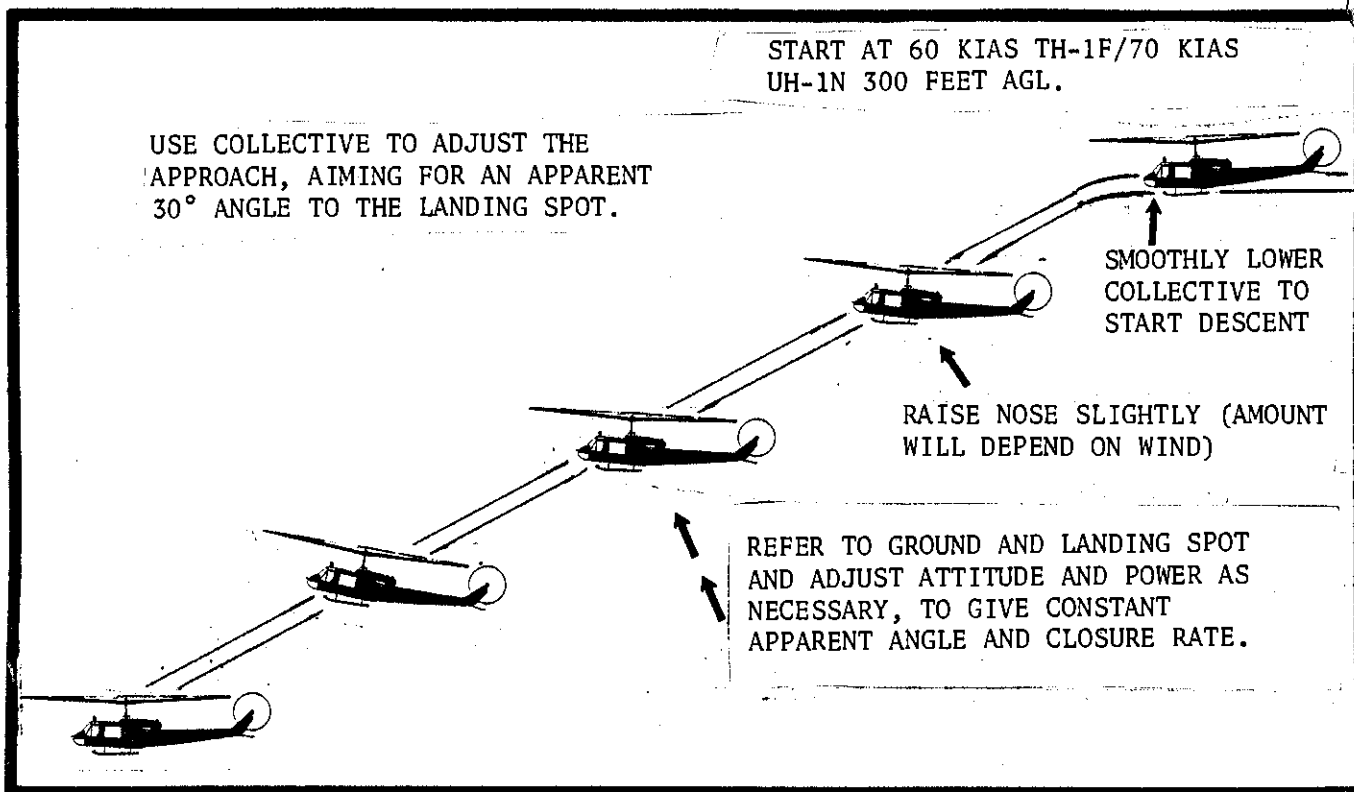
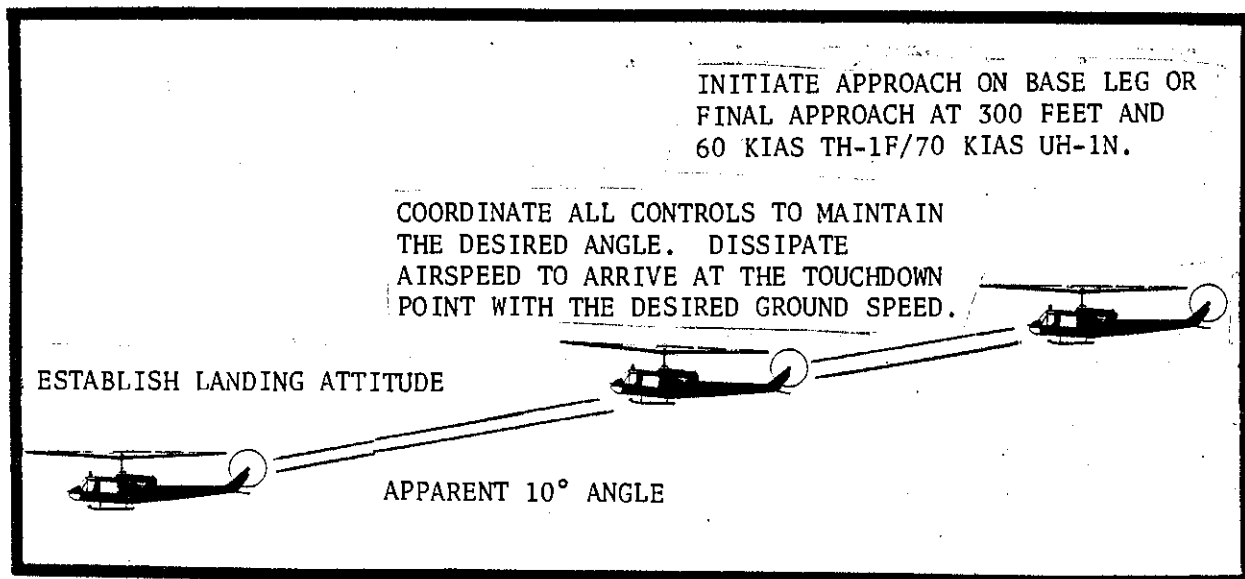

Figure 3-2. Normal Approach
Figure 3-3. Shallow Approach (Slide Landing)
j. Normal/Shallow Approach. The only difference between these approaches is the apparent angle. They are both flown in the same manner. As its name implies, the NORMAL APPROACH is the one most normally utilized, (see figure 3-2). The SHALLOW APPROACH is a type that is used for Hydraulic Power System Failure, Manual Fuel Operation, etc., (see figure 3-3).
(1) Required:
(2) Analysis. The approach is entered by initiating a descent and a turn toward the landing site. The angle of bank, rate of descent, and airspeed should be controlled so as to position the helicopter at a point on final where a controlled straight approach can be flown to the landing site. The point of rollout on final will vary with the entry point, altitude, power reserve and technique but should be accomplished high enough to avoid the need for aggravated flares, abrupt control movements, or large collective inputs.
n. Slide landing. The slide landing is normally used in conjunction with a shallow approach (see figure 3-3).
(2) Analysis. Plan the approach to the near end of the landing area. As you approach hover altitude, establish a landing attitude and smoothly fly the aircraft to the ground. The collective will be used as necessary to cushion the landing. Upon touchdown, maintain directional control with the tail rotor pedals and cyclic as required. The collective should be slowly reduced to allow skid friction to stop the aircraft. An abrupt reduction of collective pitch may cause the helicopter to nose over and result in rotor contracting the fuselage.